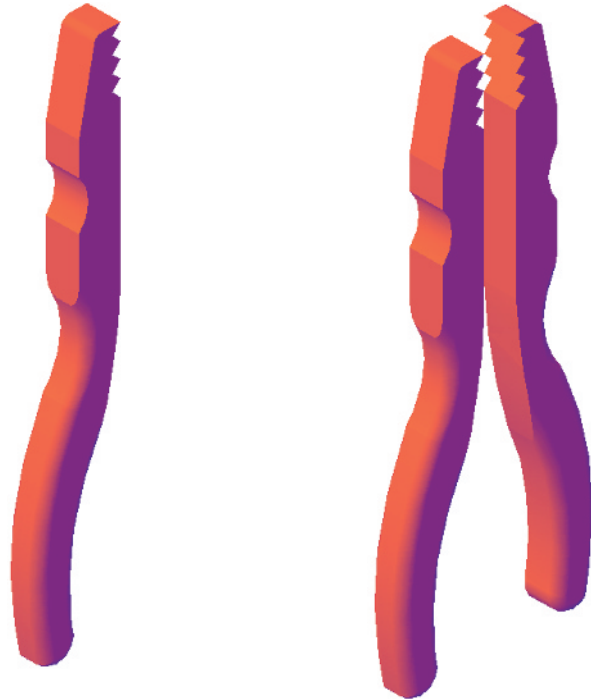

Fig. 15.17 First example – **Mirror 3D** – before and after mirror
First example – Mirror 3D (Fig. 15.17)
- Extrude the region to a height of 5 and render. A **Visual Styles/Conceptual** style shading is shown in Fig. 15.17 (left-hand drawing).
The result is shown in the right-hand illustration of Fig. 15.17.